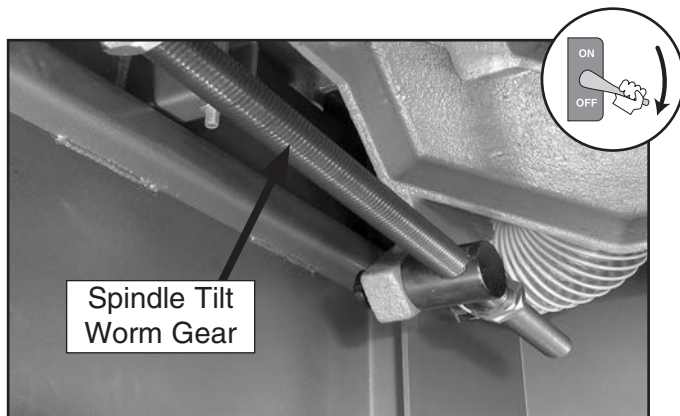

Figure 48. Spindle tilt worm gear.
3. Access the spindle tilt worm gear through the shaper front door (see **Figure 48**).